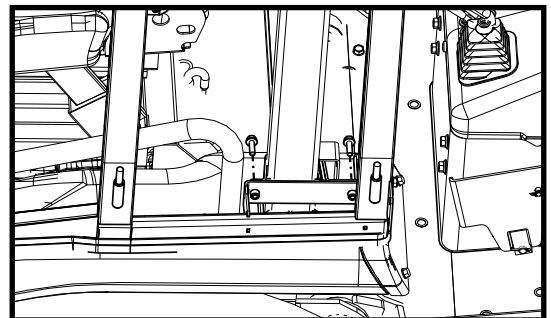

Figure 5.8: Side Frame ROPS Clamp
- 5.8 Fasten the ROPS clamp to the side frame (see Fig. 5.8).